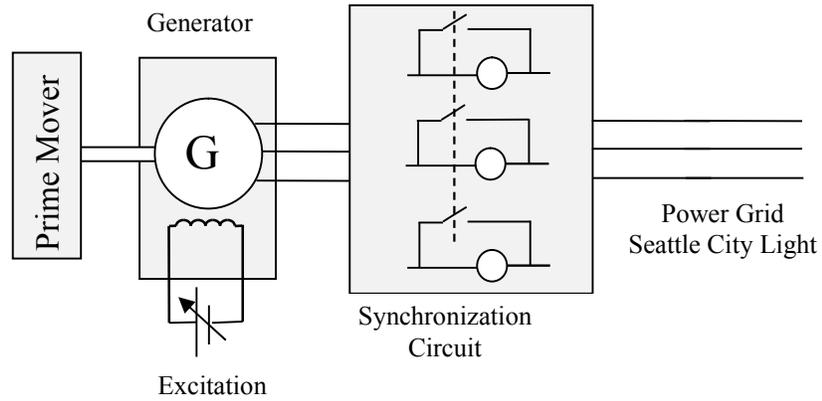

Figure 1: Lab setup
The lab setup is shown in Figure 1. It consists of a prime mover to simulate the action of the power plant's turbine. The prime mover is connected mechanically to a synchronous generator (G) to convert the mechanical energy of the turbine into electrical energy. The terminals of the generator are connected to the terminals of the power grid through the synchronization circuit.
1. Draw the wiring diagram that realizes the circuit in Figure 1. You will need to